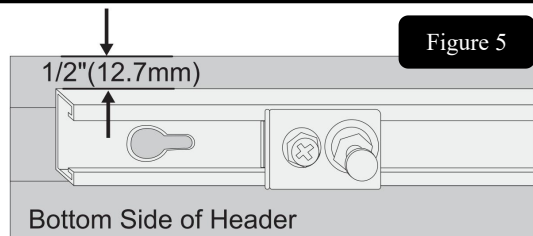

Figure 5
Step 5: Install track onto the header as shown (Figure 5). The distance from track to the header edge should be 1/2" (12.7mm) as shown.